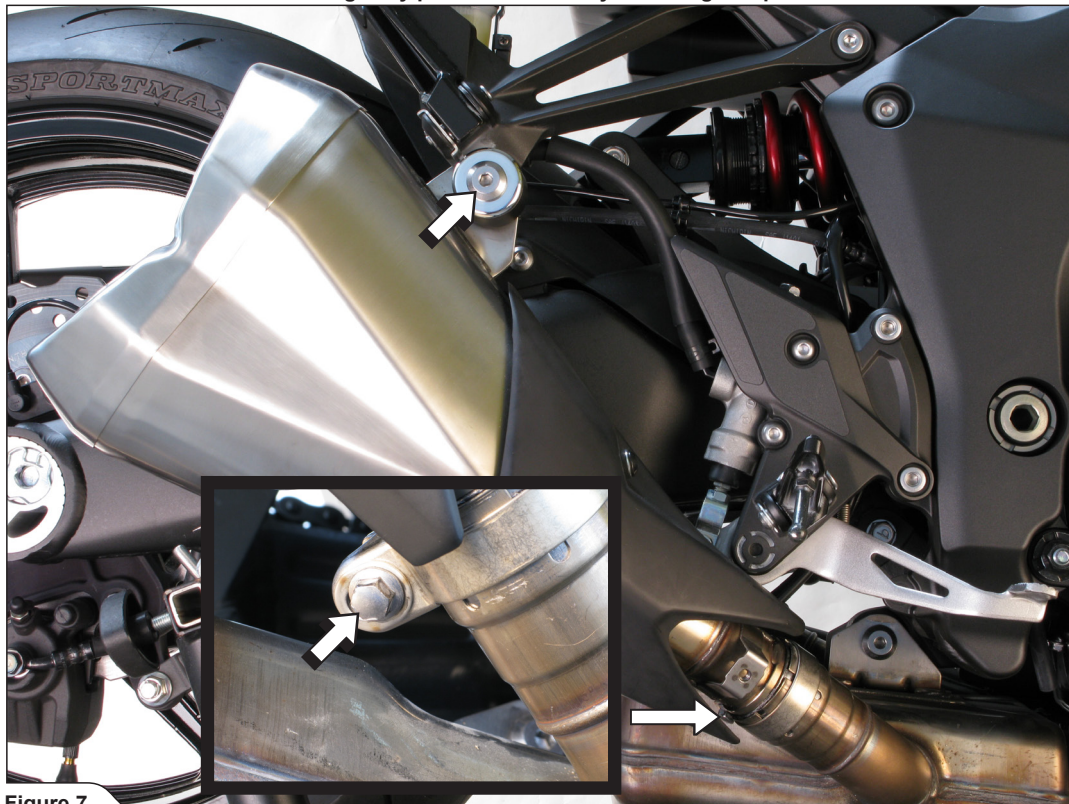

Figure 7
6. Loosen the clamps and unscrew the mufflers' bracket bolts on both sides of the motorcycle. Carefully remove the mufflers off the motorcycle (Figure 7).